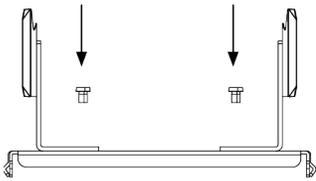

Fig. 7
1. Attach retrofit mounting clips to the mounting bracket. (Fig. 7)